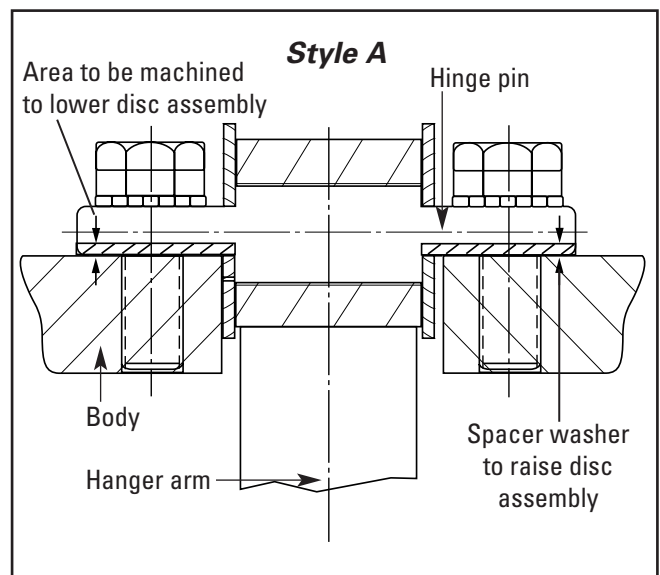

Figure 9.10B To centralize disc with body seat
3. Whenever replacing with new hanger, hinge pin, or disc, it may be necessary to align the disc to be approximately in centre with the body seat. This may be accomplished by raising or lowering the disc. Refer to Fig. 9.10B